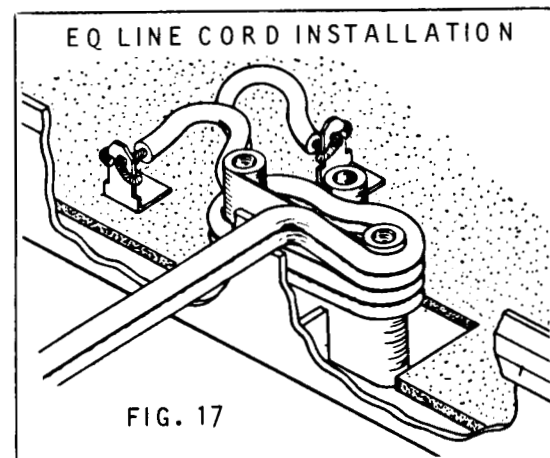

FIG. 17
3. Wrap the line cord around the strain relief as shown in Fig. 17. If you have difficulty, see separate line cord installation.
4. Remove 220-volt line cord (if supplied) and replace with 110-volt line cord. Make certain the line cord is wrapped around the strain relief as shown in figure 17. (See separate installation section.)
4. Remove 110-volt line cord (if supplied) and replace with 220-volt line cord. Make certain the line cord is wrapped around the strain relief as shown in figure 17. (See separate installation section.)